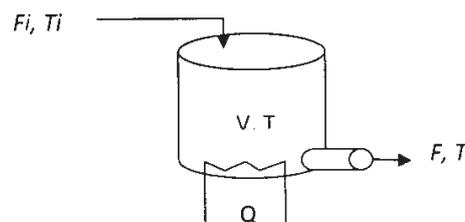

Fig. 1
- Q2)** a) Consider a Tank-Heater as shown in fig. 1. Assume that flowrate and Temperature of inlet stream can vary. F_i , T_i are inlet and outlet flowrates respectively. T_i , T are inlet and outlet temperatures, V is volumetric holdup and Q is rate of heat addition. [12]